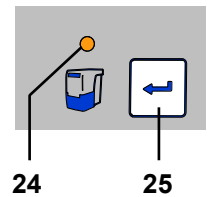

Fig. 8
**If the dust drawer is not emptied, the display for the dust drawer will remain alight (24, Fig. 8). When the unit is switched off/on an acoustic signal will occur to remind that the dust drawer needs emptying.**